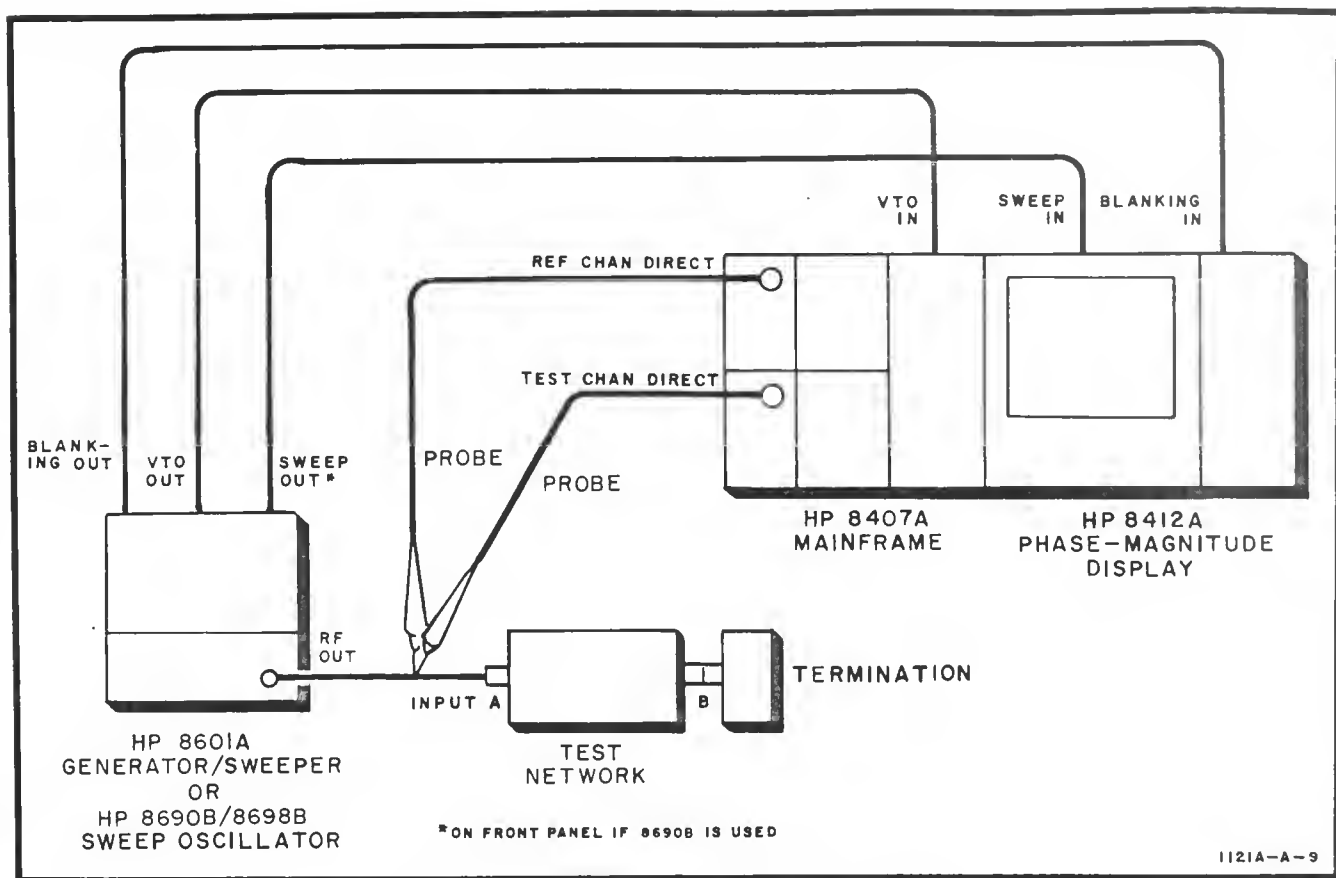

Figure 2. Using Model 1121A for Network Analysis
10. Figure 2 shows the measurement setup. The basic technique is to establish a 0 dB, 0 degree reference trace on the HP Model 8412A Phase-Magnitude Display. The
Model 1121A probe leading to the TEST channel is then moved to point B in Figure 2. The display shows the gain or loss and phase shift of the test network.
a. **TEST SETUP.** Connect equipment as shown in Figure 2 and adjust sweeper power output until REF CHAN LEVEL meter on the Model 8407A indicates in the operating range.
- d. **TEST.** Move the probe leading to TEST channel to point B (Figure 2) and make the measurement